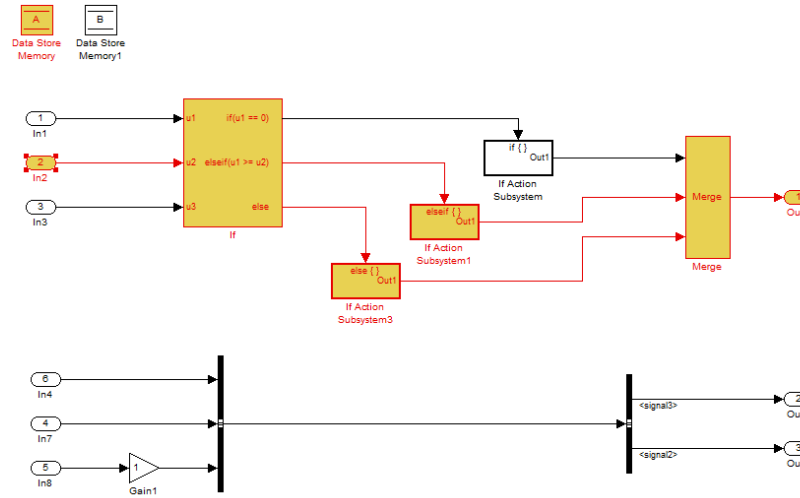

Figure 4: Resulting model after **Reach From Selected** operation.
1. Let us perform a reachability analysis to find all possible dependencies of the `In2` block. To do this, right-click on the `In2` block and select the `Reach From Selected` option. The resulting model is shown in Figure 4. Due to the fact that `In2` is used in the last two condition checks of the `If` block and its data flow is traced to `Output` block `Out1`. Doing a reachability analysis on `In2` also shows clearly that it impacts the `Data Store Memory` block `A`.